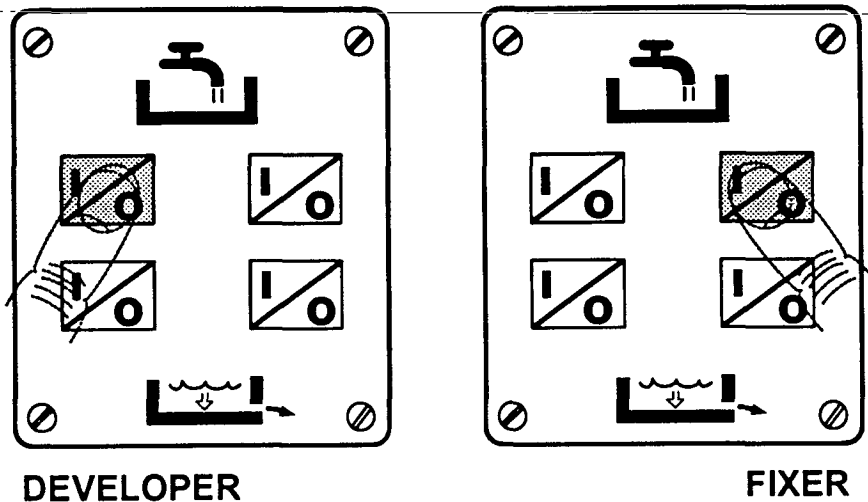

figure 9
5. The WATER VALVE SWITCHES on the SERVICE KEYBOARD are used for different functions during the different modes (see figure 19). In SERVICE MODE they will energize the TRANSFER VALVES either for the DEVELOPER side (left hand SWITCH) or for the FIXER side (right hand SWITCH see figure 9).